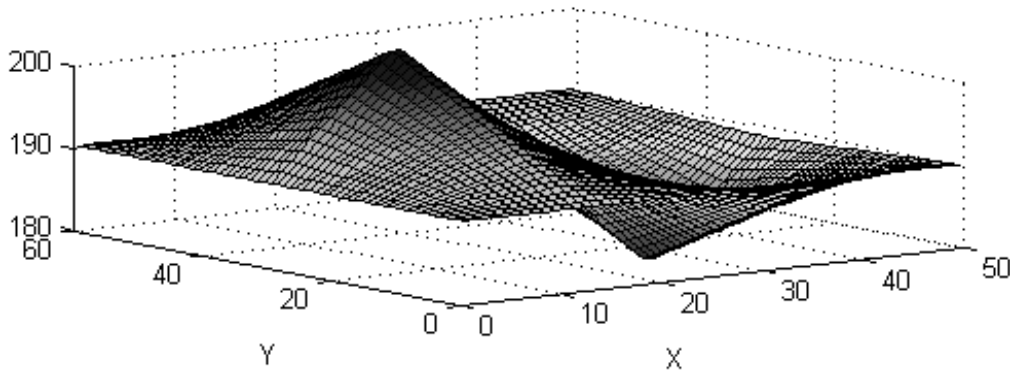

Figure 12.12. A three-dimensional plot of Vehicle Radiator data
13. Run this program; the result should look like Figure 12.12.